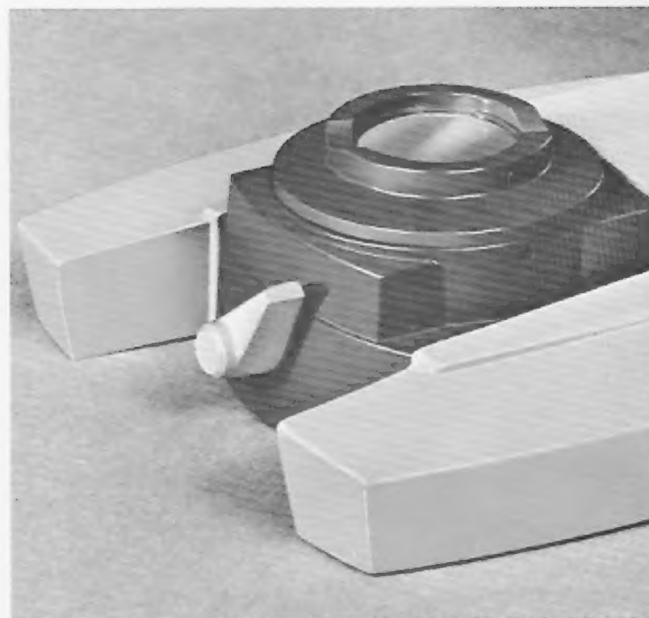

Figure 25. Cat. No. 1036 Illuminator
- (2) **Neutral Density Filter.** A integral neutral density filter is incorporated as standard equipment in the Cat. No. 1036 illuminator (figure 25). It has a transmission of approximately 10% and is controlled by a lever in the front of the illuminator. Because of the high intensity provided with this illuminator, for ordinary bright field work it will probably be more comfortable to use the neutral density filter.